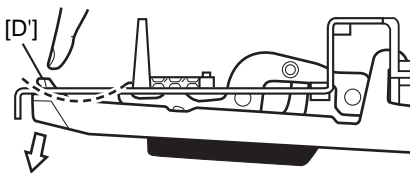
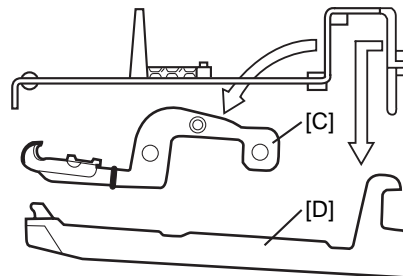

Fig.8
Fig.9
- 13-2 Press the part marked [D'] in the direction shown in figure 9, then remove the key marked [D] and the hammer assembly marked [C]. (Fig. 8, Fig. 9)